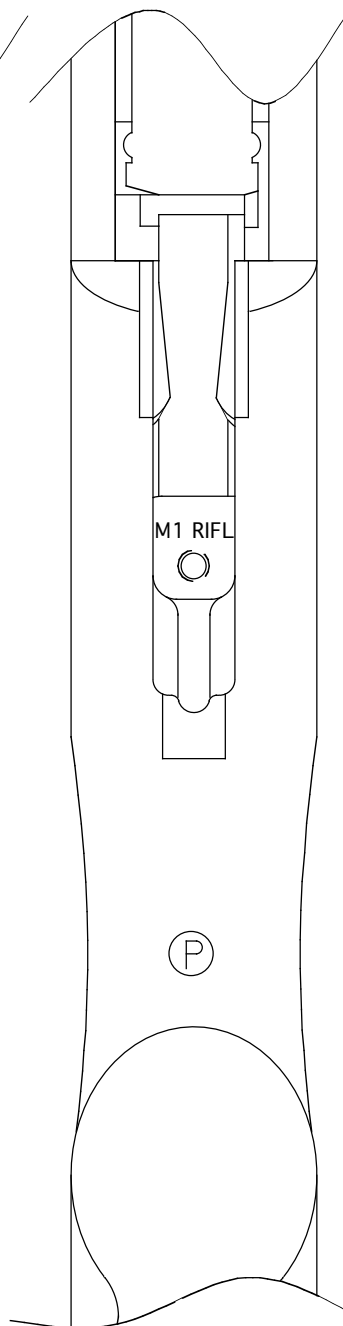

fig. 3
4. Apply bedding compound to receiver side of stock, set receiver into stock (fig. 3).